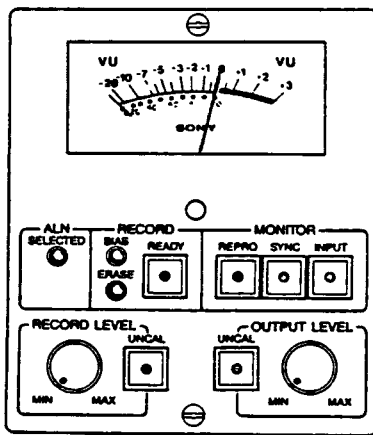

Figure 6-30. Reading for 0VU
STEP 6 Ensure that with the +4dBm 1kHz sine wave signal input to the machine, the VU meters read 0VU. Refer to Figure 6-30.
The RECORD LEVEL adjustment is made to set the amplitude of the program material signal which is recorded onto the tape. The BIAS LEVEL adjustment is made to set the amplitude of the bias signal (which is intermixed with the program material) so that the program material signal that is recorded onto the tape has the desired balance of high frequency loss and distortion, as discussed in Section 6.6.6. Refer to Figure 6-30. Generally the bias level setting is referred to as overbias because the amplitude of the bias signal is set to cause a loss of a few dB at the high frequency range. These adjustments are interactive and are critical in obtaining optimum audio performance in the recordings produced by the APR-5000.